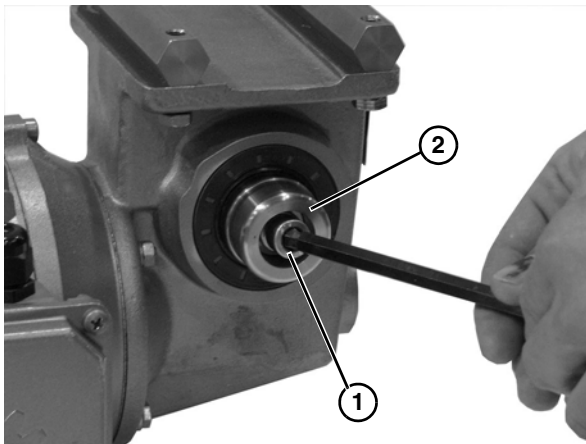

Figure 60
1. Remove the plastic cap on the end of the motor and remove the socket head screw (Figure 60, item 1) and the bore plug (Figure 60, item 2).